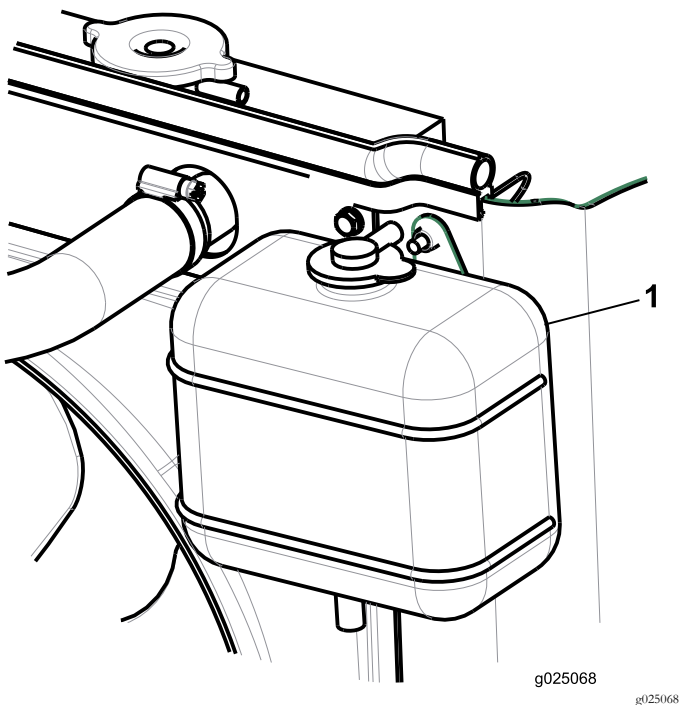

Figure 25
2. Check the level of the coolant in the expansion tank (Figure 25).